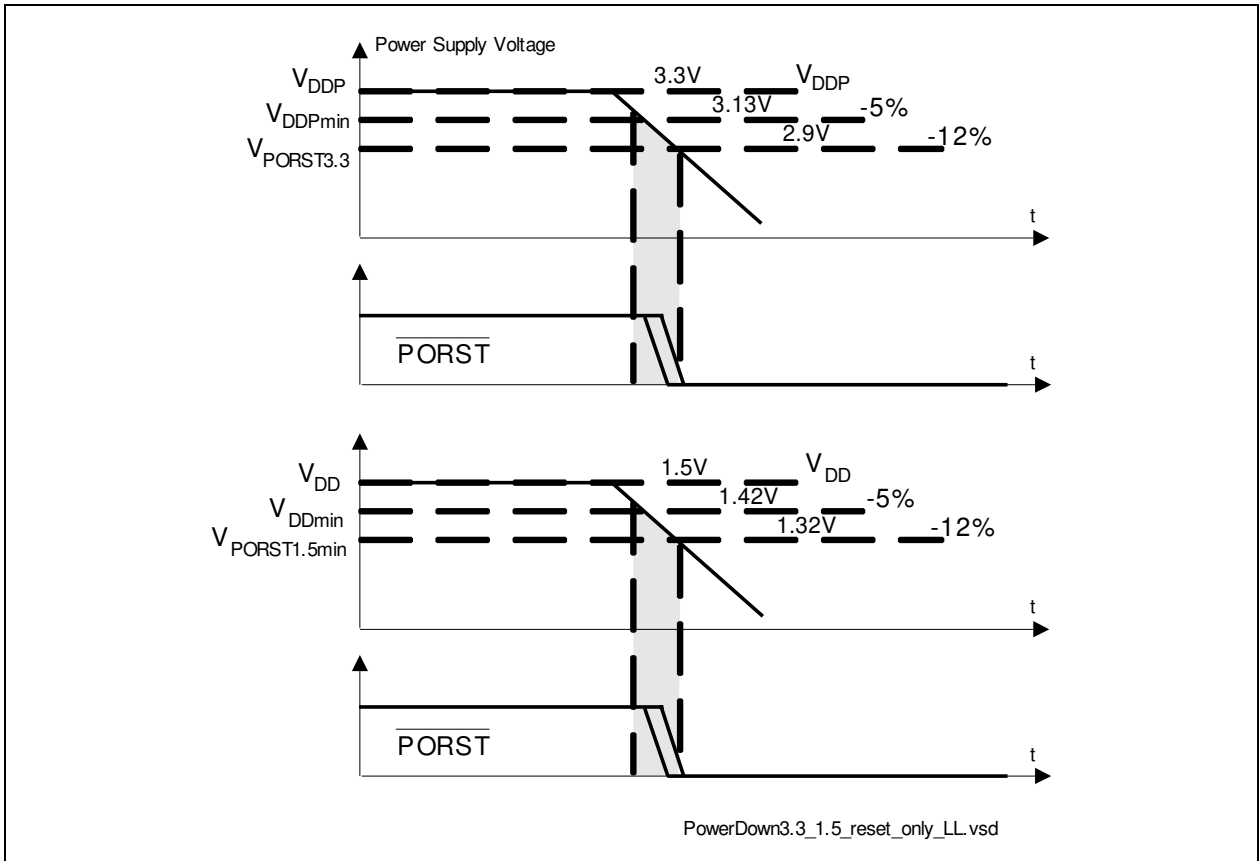

Figure 4-10 Power Down / Power Loss Sequence
**Figure 4-10** provides the characteristics of the power supply current in the TC1161/TC1162.